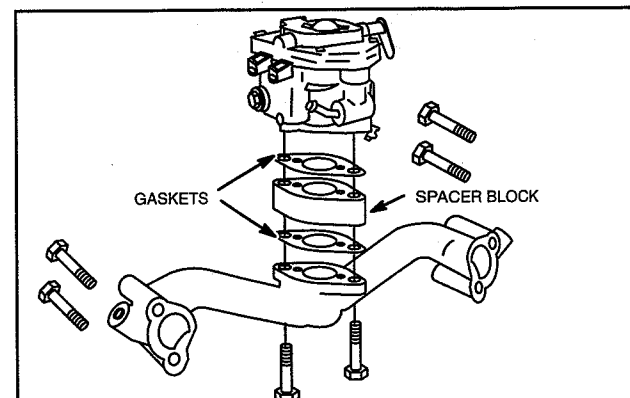

Fig. 73 – Remove Intake Manifold
7. Remove carburetor, spacer and gaskets, Fig. 73.